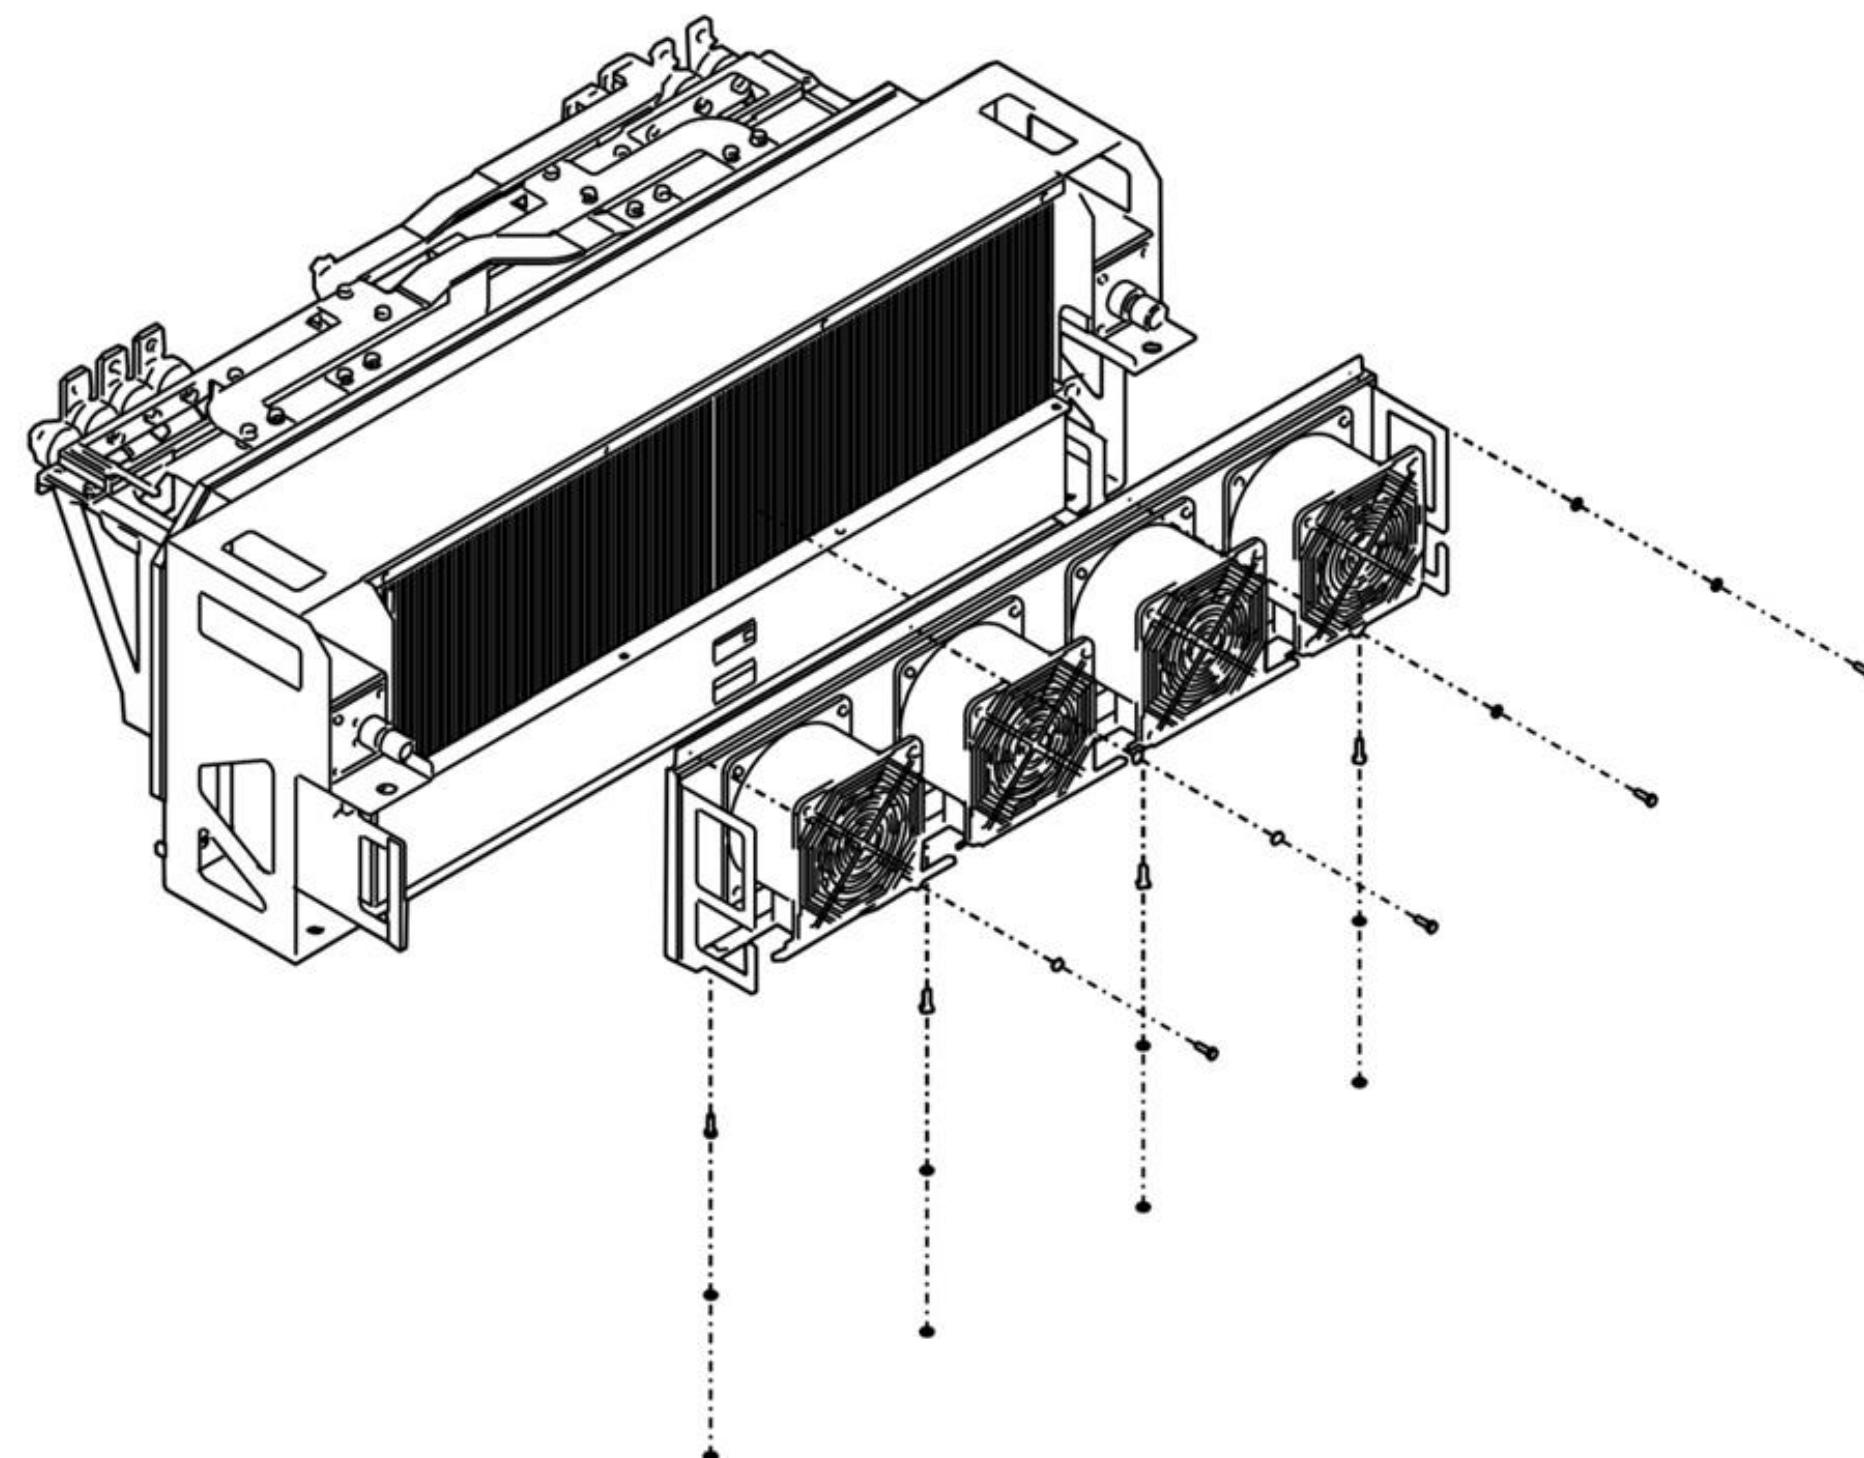

Figure 5-12: Fan Unit Installation
1. The fan unit (1) can be removed from the Inverter Unit (2) while the Inverter Unit remains in the propulsion equipment case, Figure 5-12. First, remove the equipment case door that contains the air filter.
3. Loosen the eight (8) hex head bolts (3), flat washers (5) and lock washers (4) that secure the fan unit to the inverter frame as shown in Figure 5-12. Use a 10 mm socket. These are M6 threads. The fan assembly can then be removed.